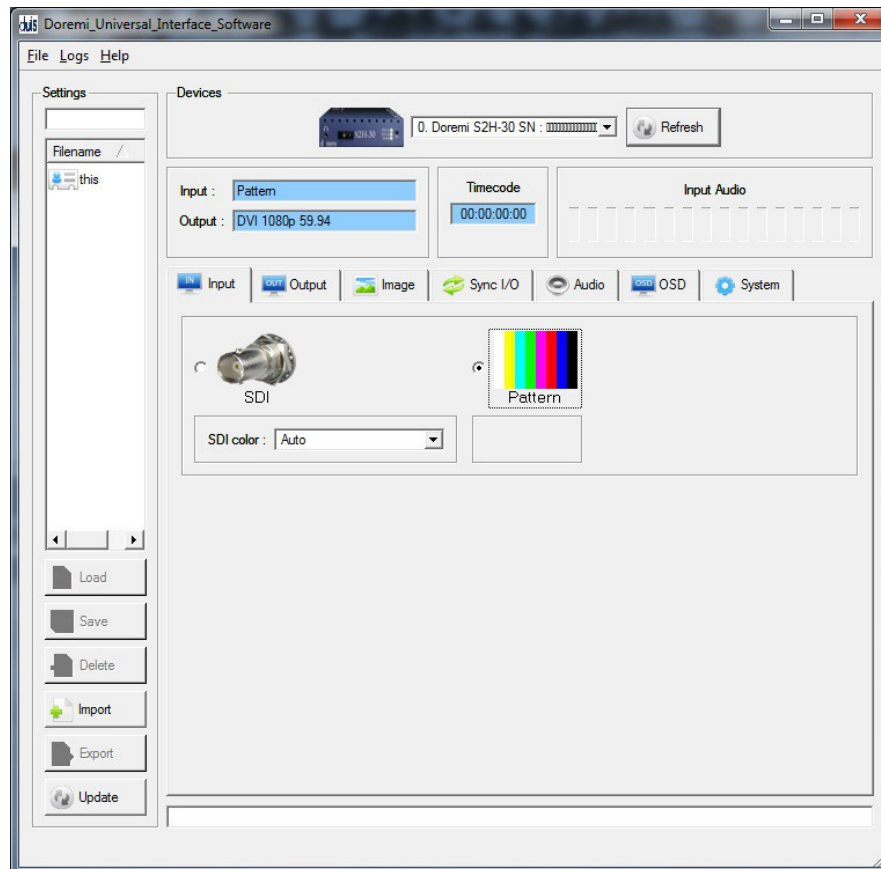
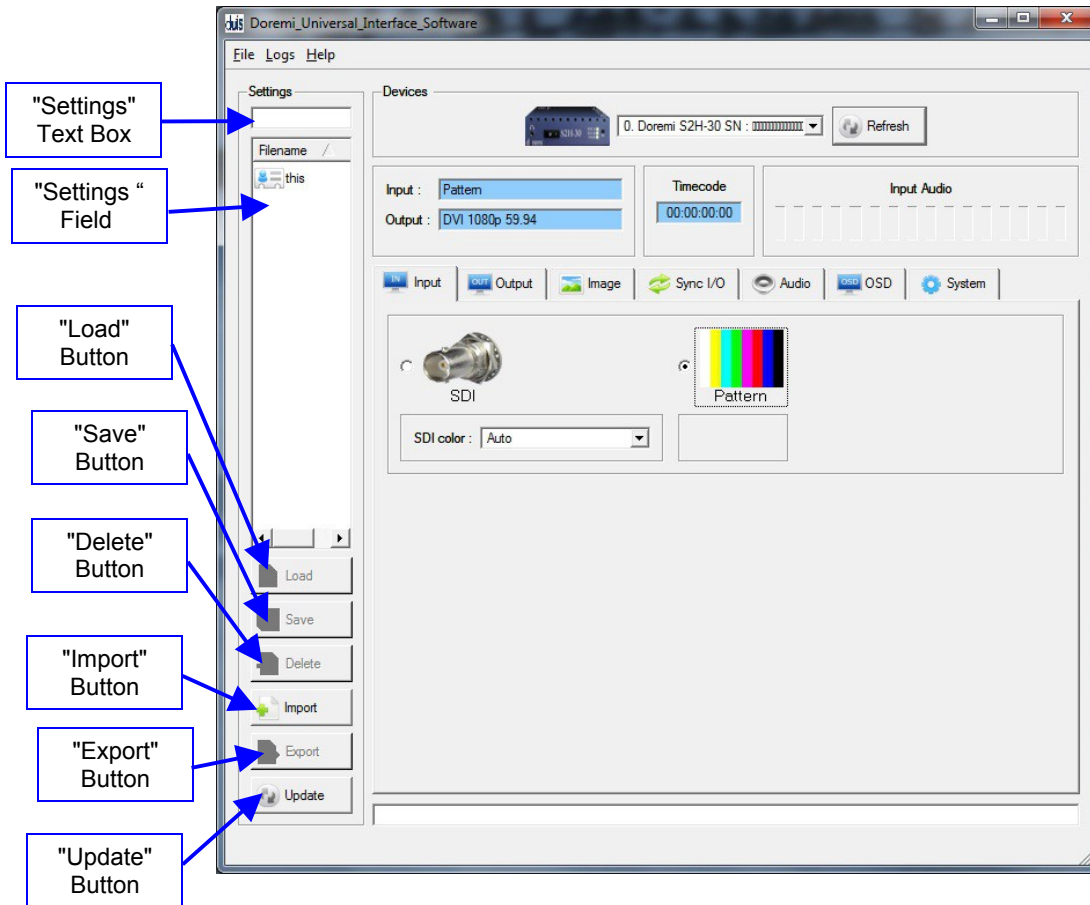

Figure 14: S2H-30 Control Panel Window Input Tab
Figure 15: S2H-30 Control Panel Window Settings Field
- The “Devices” field located on the top of the window can be used to select a connected S2H-30 from the drop down menu. Click on the “Refresh” button to see if all the connected S2H-30 units are visible (see Figure 14).
- The “Information” field located just below the “Devices” field provides information about the input, output, current 'timecode', and the audio input level of the connected S2H-30 device (see Figure 14).
- The “Control” field located below the "Information" field has tabs that can be used to view or modify various settings on the connected S2H-30 unit. These settings include Input, Output, Image, Sync I/O, Audio, OSD, and System. These tabs are presented in Section 5.4 (see Figure 14).
- To export the saved settings file to a specified location, select it in the “Settings” field and click on the “Export” button. The user will be asked to confirm where to export the file using a standard “Save as” dialog box (see Figure 15).
- To import an existing settings file from a .ghx file into the “Settings” field, click on the “Import” button. Browse the files to select the appropriate “settings file” to import (see Figure 15).
- The imported file will appear in the “Settings” field on the left part of the window. To apply the settings to the connected S2H-30 unit, select the file and click on the “Load” button. The S2H-30 settings will be updated (see Figure 15).
- To delete a settings file present in the “Settings files” area, select it and click on the “Delete” button (see Figure 15).
- To update the “Settings” field to reflect the content of the “User Settings” folder of the S2H-30 Control Panel application (folder where all the settings files are stored), click on the “Update” button (see Figure 15).
Note: The "Load," "Save," "Delete," "Import," "Export," and "Update" buttons become enabled when the user selects the file from the "Settings" field (see Figure 15).
The Input tab is illustrated in Figure 14 and Figure 15. All parameters are explained earlier in this manual in Section 3.1.